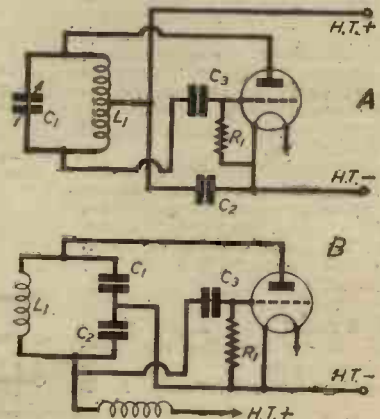

Fig. 22.—(A) Hartley oscillator. (B) the Colpitts circuit.
Fig. 22 (A) shows a Hartley oscillator, wherein the coil is tapped, voltages from one section are fed to grid and filament of the triode (timing pulses) whilst the anode current of the valve flows through the other part of the coil, thus supplying energy as this current varies under the influence of the grid/filament voltages.
Instead of "splitting" the coil, the condenser is "fapped" by using two condensers of a suitable value in series. One half of the condenser combination supplies the timing pulses which are fed to grid and filament; the valve's anode current once again flows through the coil, thereby enabling energy pulses to be supplied to the oscillatory circuit (Fig. 22 (B)).